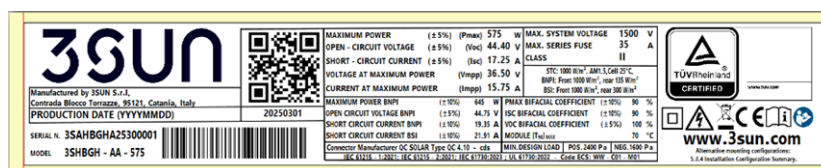

Figure 7: example of module power label
3. Power label: placed on the rear of the module in proximity to the junction boxes, containing the production date and location, the product serial number, the barcode, a QR code, the current class, the product code, the nominal power, current and voltage, the open circuit voltage, the short circuit current the maximum system voltage and the main certificates (Figure 7).